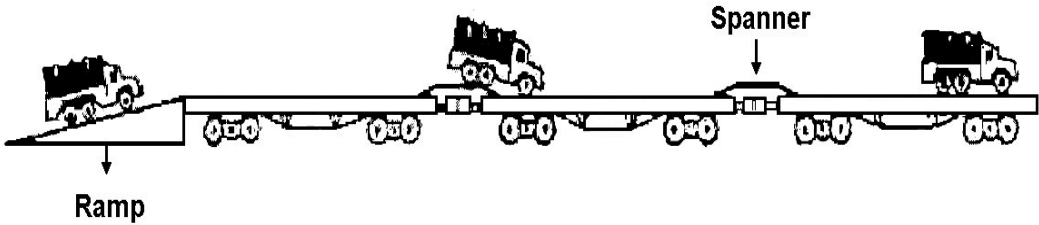

Figure 3-89
1. Place spanners securely in place to bridge the distance between flatcars (see Figure 3-89).
4. Load all vehicles from the rearmost car and position them forward to the assigned position (see Figure 3-89).